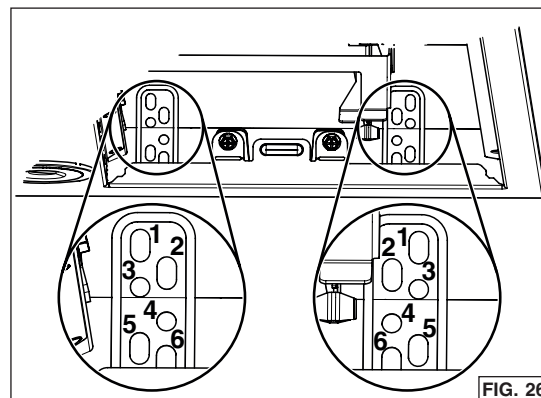

FIG. 26
- Lift the unit until contact is made between the unit flange and cabinet. Secure the unit to the cabinet using 4 no. 8 x 5/8" wood screws included in parts bag (2 screws per side). Use upper or lower holes (1, 2, 3, 4, 5 or 6) (FIG. 26).